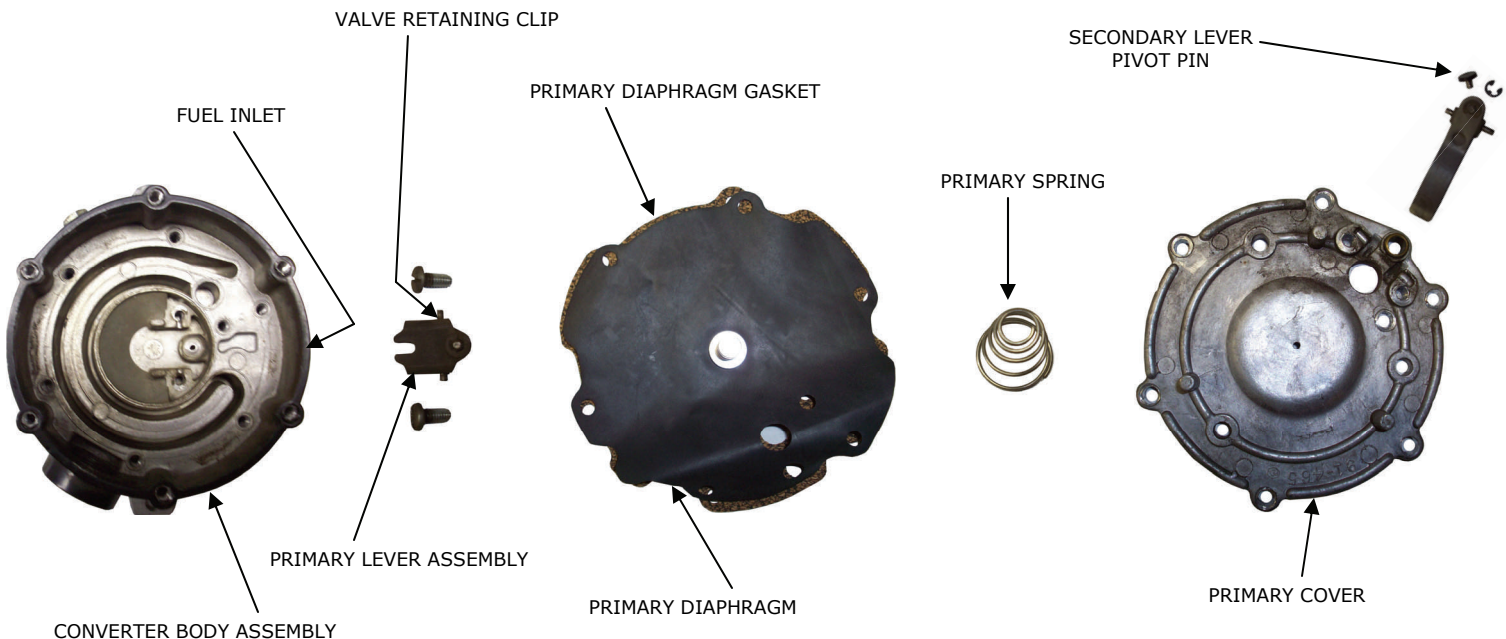

Figure 5
3. Remove (9) screws holding the primary cover. Remove the primary cover and spring, with the secondary lever intact.
- a. Loosen the (2) screws holding the secondary lever pin and lift out the secondary lever assembly and pin. Remove secondary spring from body. (Figure 5)
4. Remove the primary diaphragm from the primary lever by sliding the diaphragm away from the fuel inlet. Remove gasket, primary lever and pin assembly. (Figure 5)
5. Remove (6) back cover screws and lift cover and gasket away from the converter body. Discard the gasket.
- a. Remove the primary valve seat from the primary lever by sliding the valve retaining clip to the side. Replace with a new valve seat. (Figure 5)